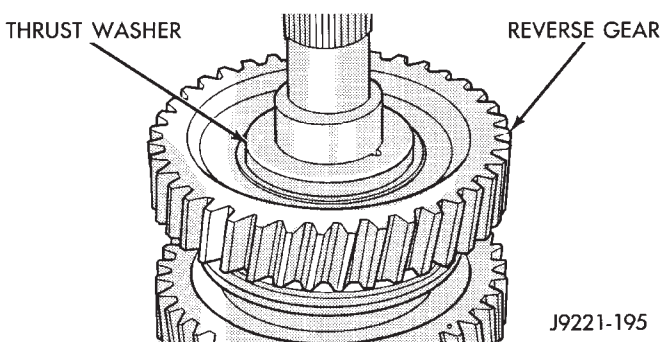

Fig. 118 Reverse Gear Thrust Washer Installation
(35) Install reverse gear thrust washer (Fig. 118).